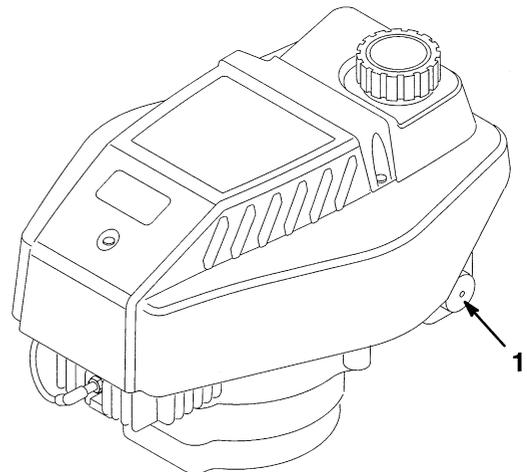

Figure 6
3. Push primer three (3) times (Fig. 6). **Wait about two (2) seconds between each push.**